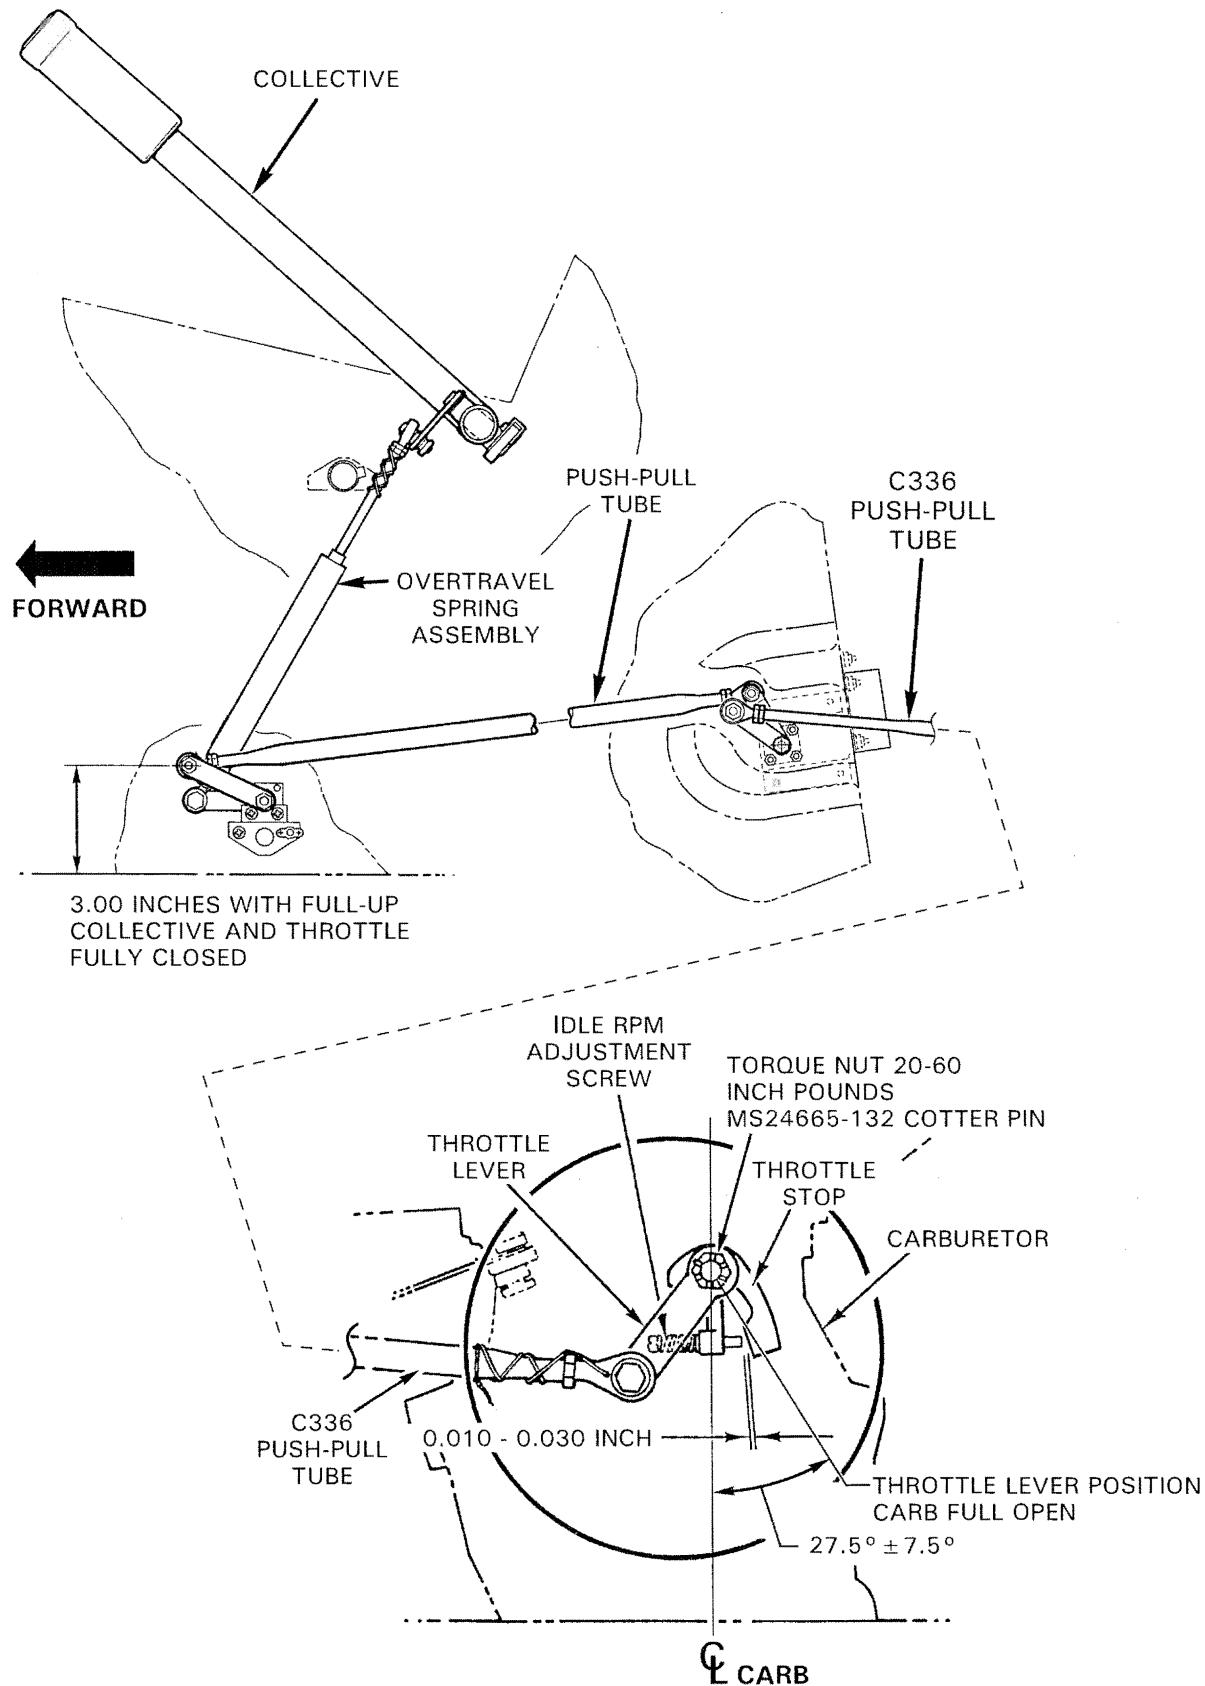

FIGURE 10-8 THROTTLE CORRELATION RIGGING
10.150 Throttle Correlation Rigging (see Figure 10-8)